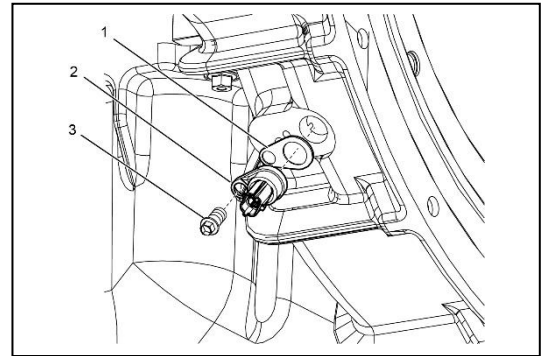

Figure 149
10. Reinstall the speed sensor (Figure 149, 2) and shims (Figure 149, 1).
11. Loctite sealant 242 to the threads and Install bolt (Figure 149, 3) to secure speed sensor (Figure 149, 2). Tighten the bolt to recommended torque